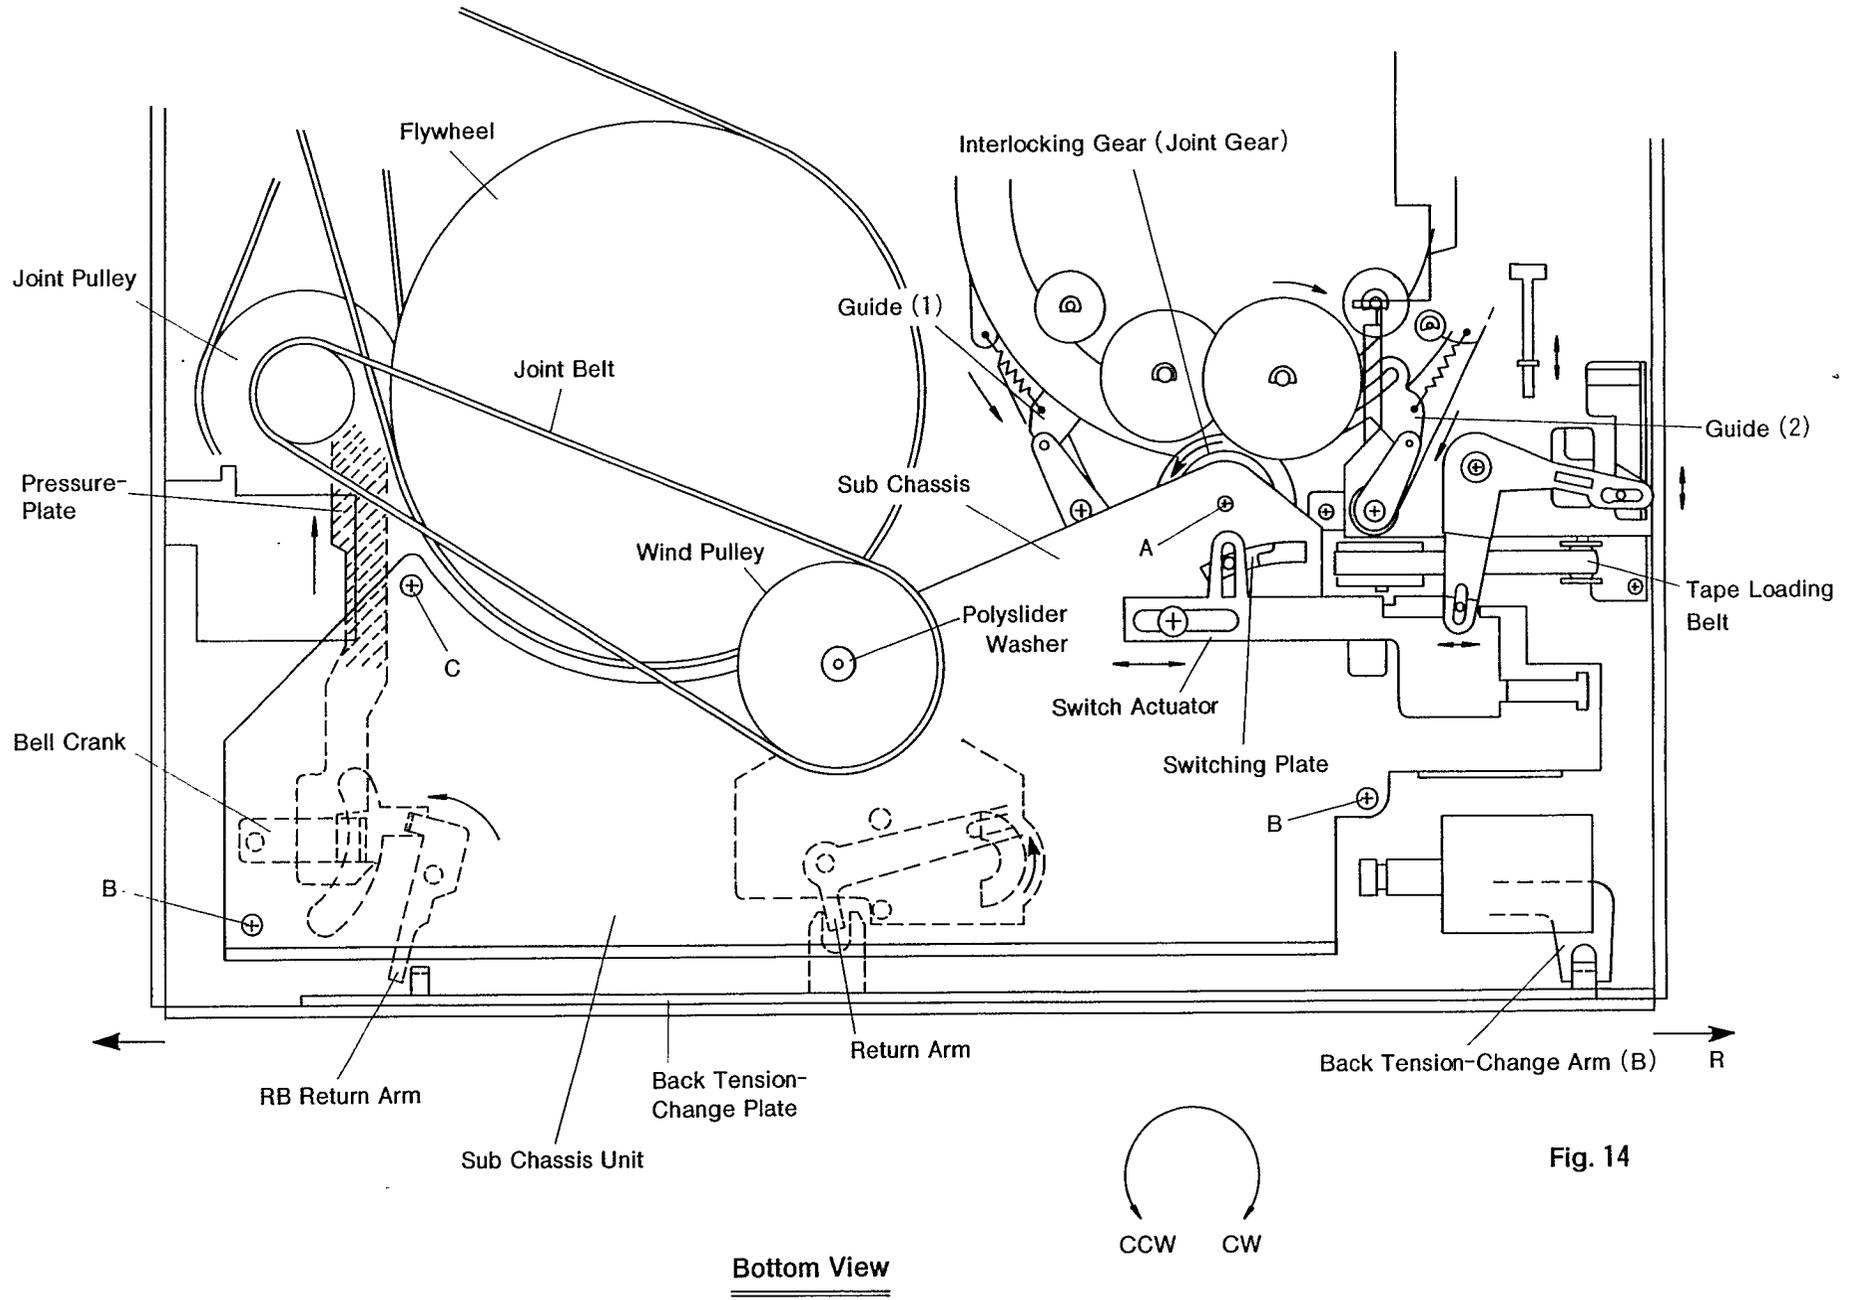

Fig. 14
3. Gearing position of Interlocking Gear and switching plate and Mounting position of Loading switch. (Fig. 14)
**A. Take-out of Sub Chassis Unit (Fig. 14)**